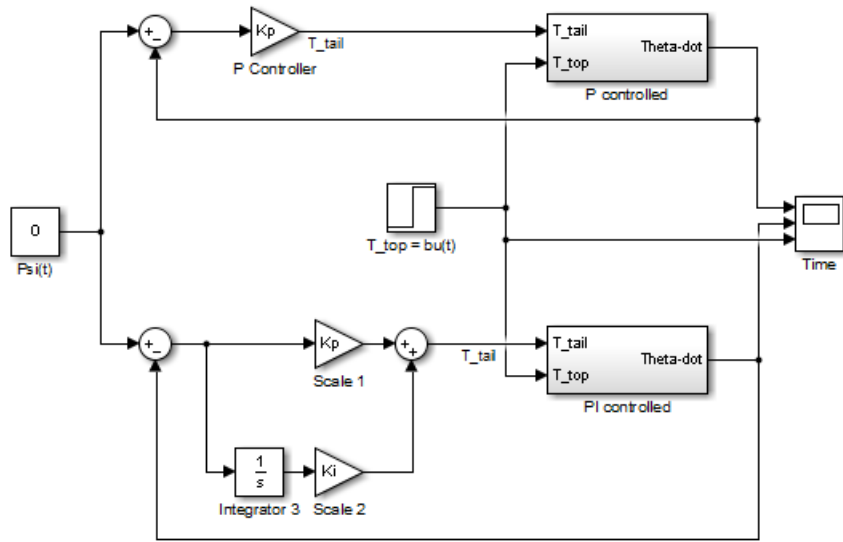

Figure 2: the control systems models (SimuLink)
Using Simulink and its continuous-time modeling component I have built a model of the helicopter control system shown in Figure 2. This model has an upper section that models a system with a proportional (P)-controller and a lower section that models a proportional-integrator (PI)-controller. The P-controller subsystem illustrates problem a) with the lower PI-controller subsystem illustrates problem b). These are placed together so that the inputs and outputs may be shared and displayed together. In this model the value of $a = 5$ and $T_{top} = 4$ are arbitrarily chosen.
The lower portion of Figure 2 replaces the proportional (P) controller of the upper system with a propotional-integrator (PI) controller. This alternative controller has an additional parameter associated with the intgrator, K_i . Experiment with this new value shows that the error is corrected for over time, recalling that the integrator has memory.